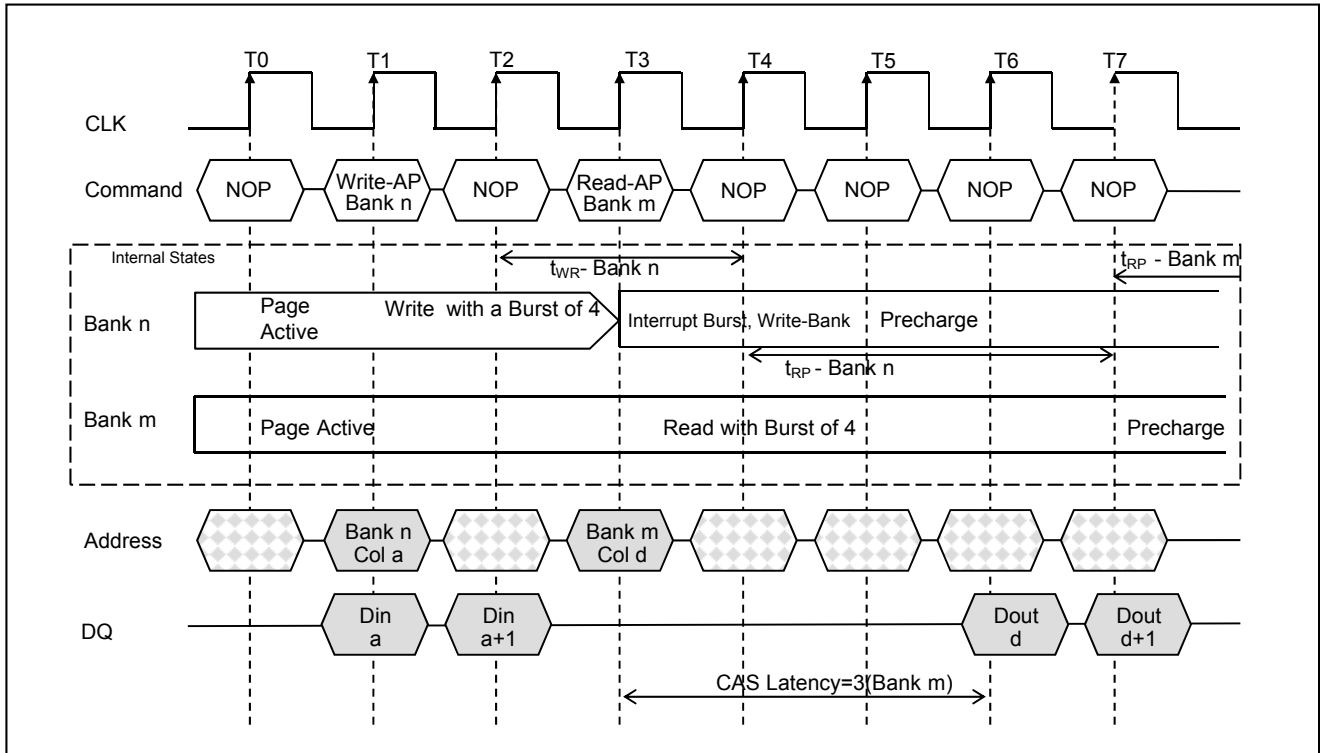

Figure 27. Write with Auto Precharge Interrupted by a Read(CAS Latency =3)
3. Interrupted by a Read(with or without auto precharge): A Read to bank m will interrupt a Write on bank n when registered , with the data-out appearing CAS latency later. The Pre-charge to bank n will begin after t_{WR} is met, where t_{WR} begins when the Read to bank m is registered. The last valid Write to bank n will be data-in registered one clock prior to the Read to bank m.(Figure 27.)